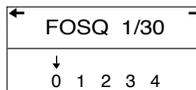

FIGURE 4–6 FOSQ SCREEN 1 OF 30
2. From the Standby screen, press the – button to access the first FOSQ screen, shown in Figure 4–6.